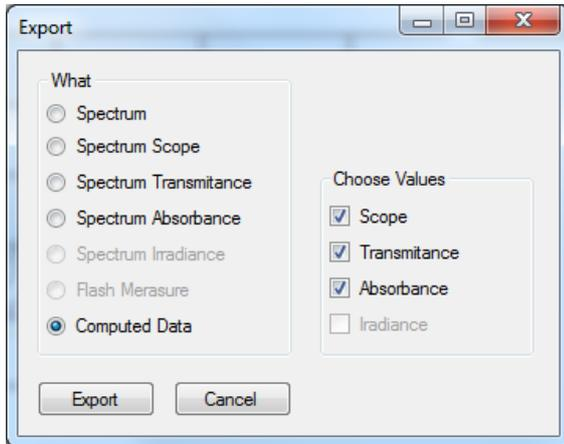

Fig. 34 Export – Computed data selection and choosing of exported values.
- Computed Data** (Fig. 34) – export of the reflectance indices for Scope, Transmittance or Absorbance of all of the measurements.